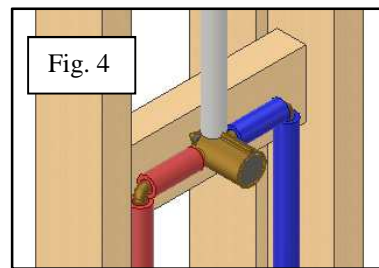

Fig. 4
- 5) Layout the holes for the shower valve, shower head, and any other supply lines. Note that your plumbing should already be fastened at this time. Slide the shower back into the alcove. Measure and mark location of the shower valve. If shower head will be located on the shower itself, mark for this hole as well. Drill a small hole at these locations and slide the shower back into the alcove. If the small holes line up, cut the larger holes in with a hole saw. Refer to the manufacturer's instructions for this. (Fig. 4 & 5)